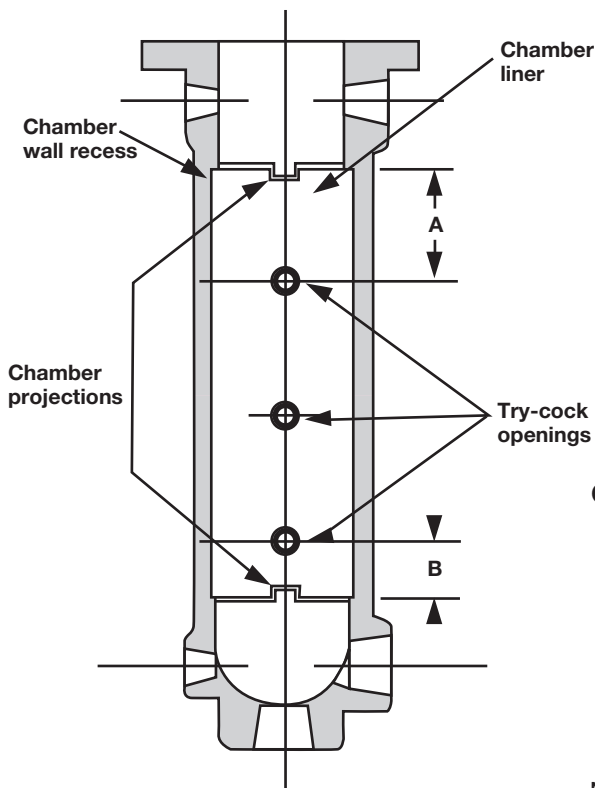

Figure 11
- 5.1. Try-cock openings on certain water column models are equidistant from both top and bottom of recess in chamber wall, as indicated by reference dimensions A and B. Refer to Figure 11. If wrong end of liner is inserted first, try-cock openings will not line up with holes in liner.